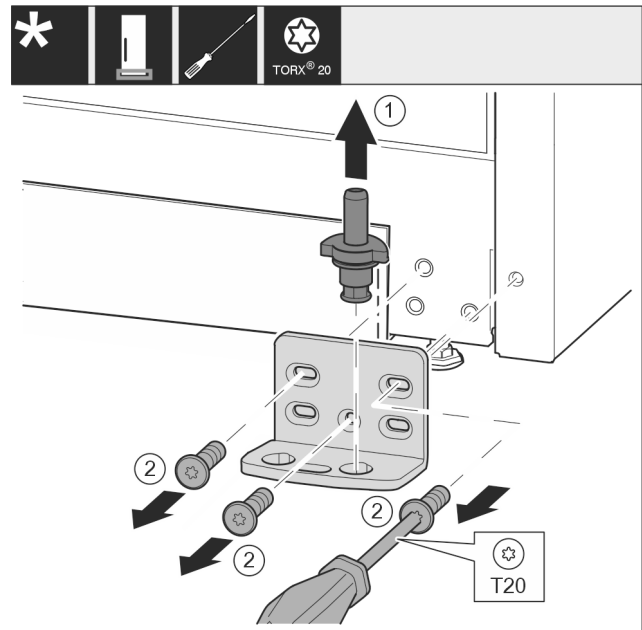

Fig. 14
- Completely pull out the bearing pin Fig. 14 (1) upward.
- Use a screwdriver to unscrew the screws Fig. 14 (2) and remove the swap bearing block.